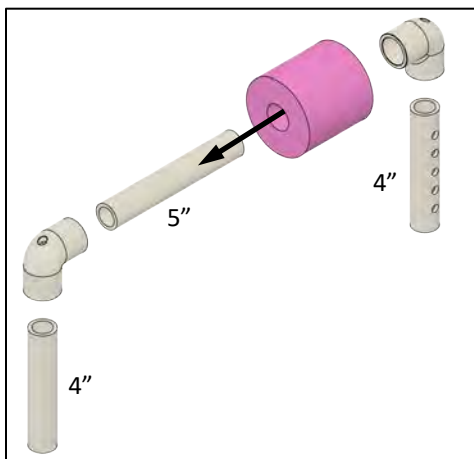

Figure 17
- ❑ Insert the 5" long pipes into the 2" long floatation pieces before connecting the elbows. (Figure 17)
- ❑ Position the thruster mounting pipes with the holes facing as shown. (Figure 17)